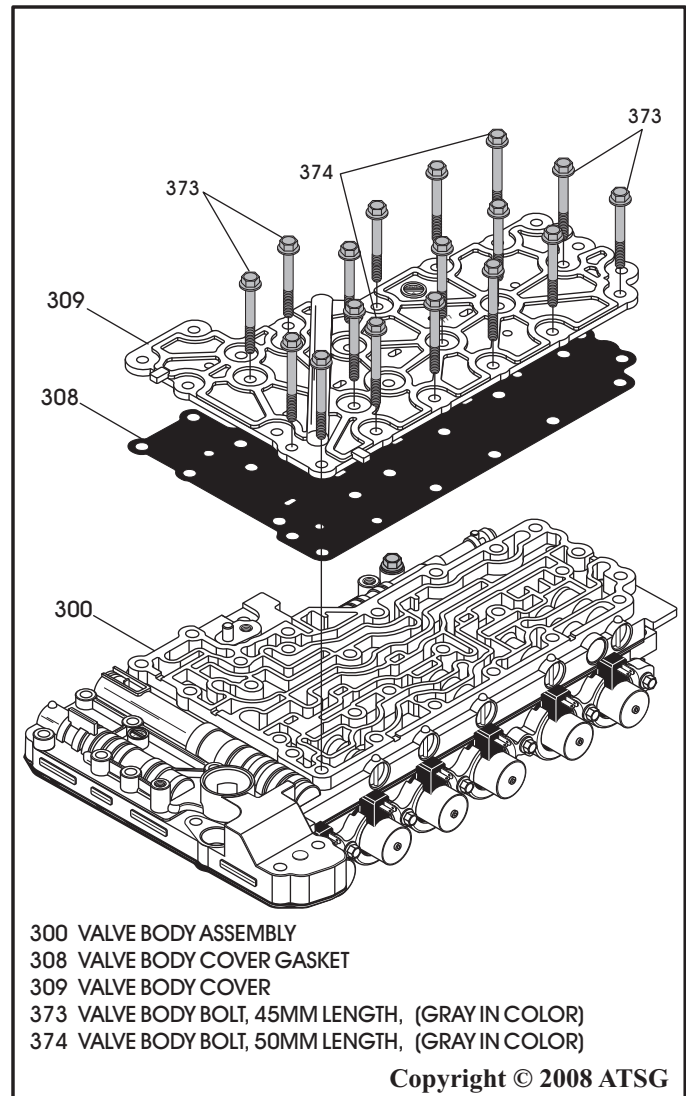

Figure 174
29. Install the valve body cover gasket, as shown in Figure 174.
30. Install the valve body cover, as shown in Figure 174.
31. Install the valve body cover bolts, as shown in Figure 174.
32. There are 17 valve body cover bolts required at this time, two 50mm length and fifteen 45mm length, as shown in Figure 174.